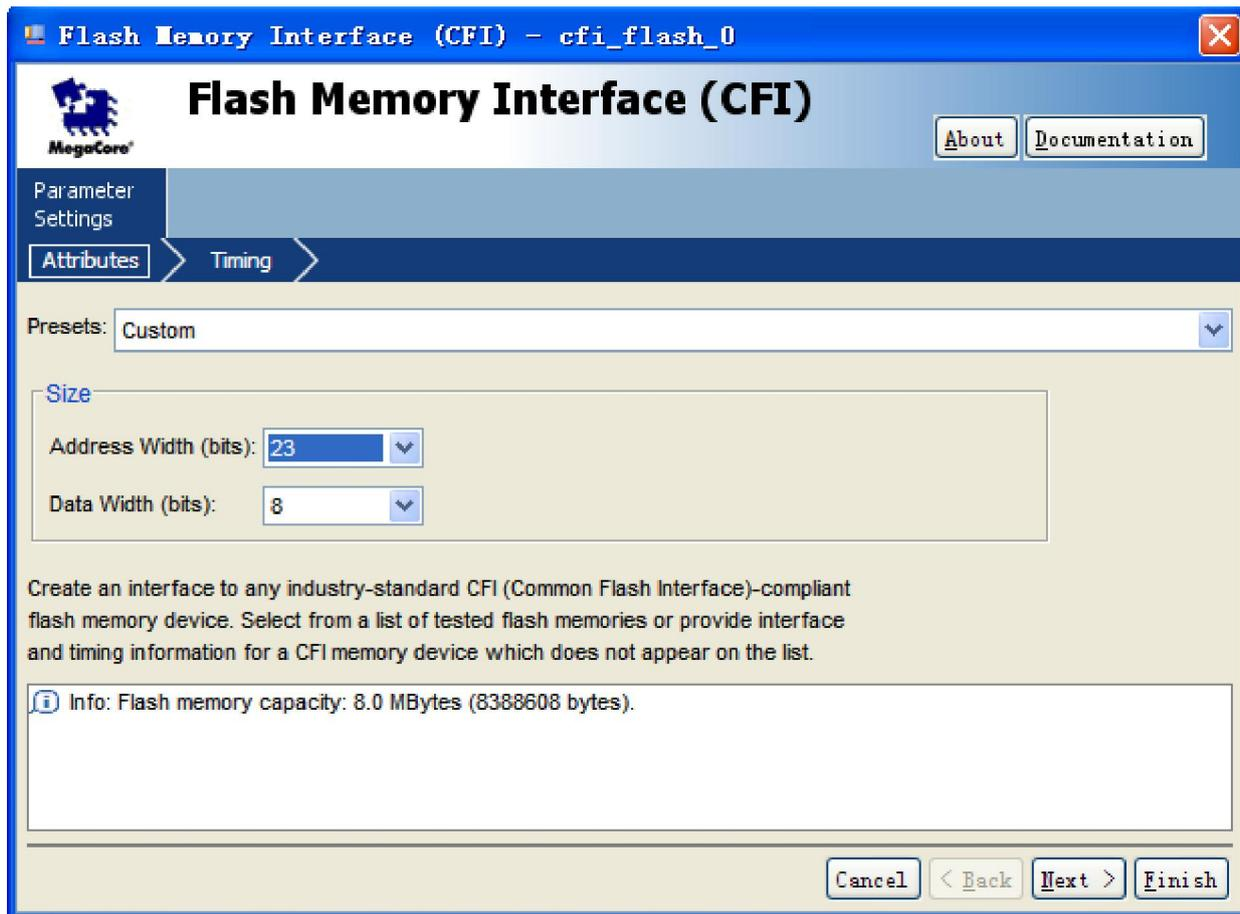

Figure 3-7 Modify Address Width in Flash Memory Interface (CFI)
5. Modify Address Width as shown in Figure 3-7.